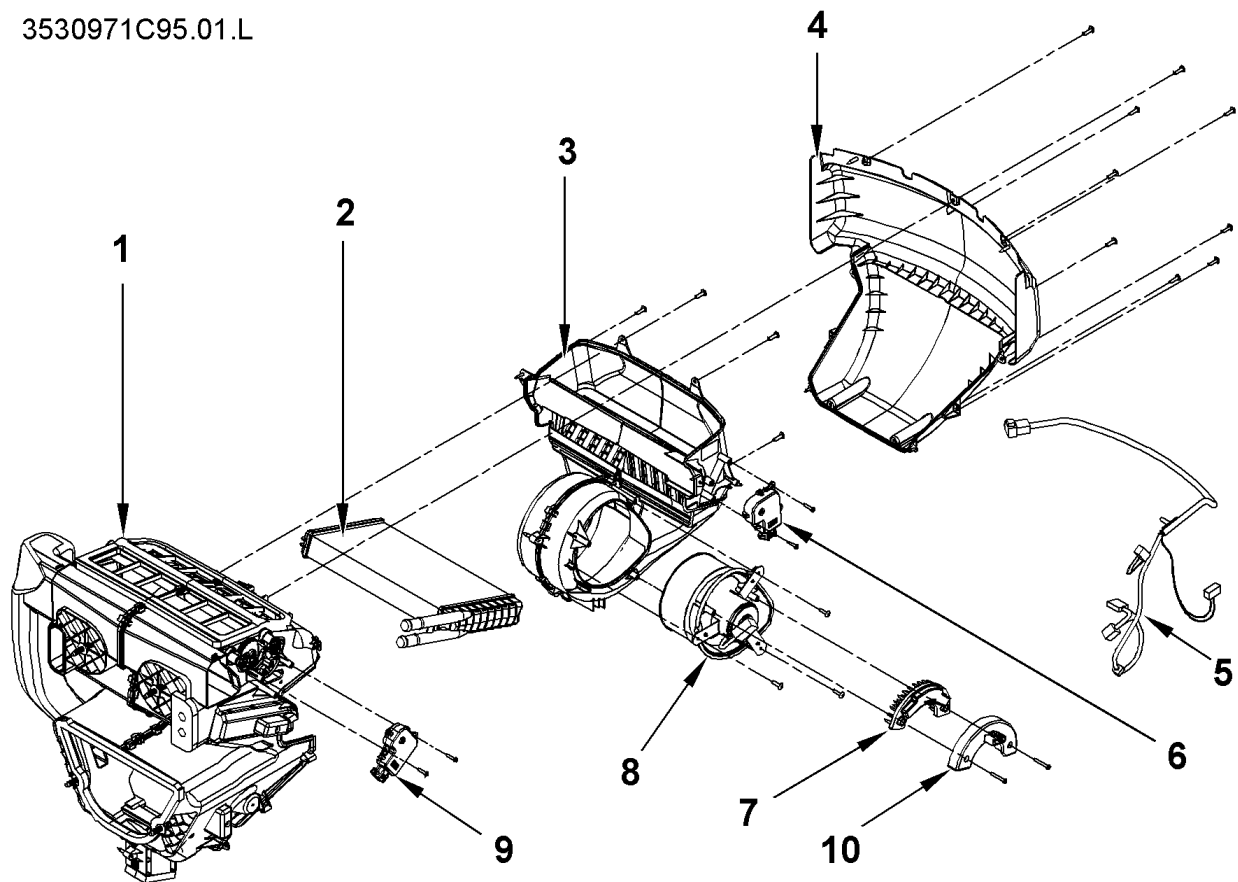

Figure 30 Heater Unit Exploded View
NOTE – Refer to Figure 30 while performing the following Remove and Install procedures.
2. Remove trim panels, as necessary, to gain access to mounting screws for heater trim cover (4, Figure 30).
5. Disconnect electrical plug connected to temperature blend door actuator (6).
6. Remove two screws securing actuator to blower scroll housing (3), and pull actuator straight off of temperature blend door shaft.
2. Secure actuator to blower scroll housing (3, Figure 30) using two screws.
3. Connect electrical control plug to temperature blend door actuator (6).
4. Secure heater trim cover (4) to heater housing with nine screws.
2. Remove trim panels, as necessary, to gain access to heater trim cover (4, Figure 30) mounting screws.
5. Disconnect electrical plug connected to mode door actuator (9).
6. Remove two screws securing actuator (9) to heater housing (1), and pull actuator straight off of mode door shaft.
1. Carefully slip actuator (9, Figure 30) onto end of mode door shaft so that mounting holes are properly aligned, if possible. If actuator drive collar must be moved to allow alignment:
2. Secure actuator to heater housing (1) using two screws.
3. Connect electrical control plug to mode door actuator motor (9).
NOTE – Refer to Figure 30 while performing the following steps.
2. Disconnect electrical plug connected to the temperature door actuator (6, Figure 30).
3. Remove four screws securing blower scroll housing (3) to heater housing assembly (1).
1. If removed previously, install blower assembly (8, Figure 30), using three screws.
2. If removed previously, install linear power module (7) and LPM cover (10), using two screws.
3. If temperature door actuator was removed previously, install actuator by rotating door until flats on door shaft align with actuator drive collar, if possible; then carefully slip the actuator (6) onto end of door shaft so that mounting holes are properly aligned. If actuator drive collar must be moved to allow alignment:
4. Secure actuator to blower scroll housing (3) using two screws.
5. Before installing blower scroll housing, verify that heater core (2) is installed in heater housing (1). To install the heater core refer to REMOVE AND INSTALL, HEATER CORE (See HEATER CORE, page 87).
1. Remove blower scroll housing (3, Figure 30), refer to REMOVE AND INSTALL, BLOWER SCROLL HOUSING, (See BLOWER SCROLL HOUSING, page 85).
2. Detach linear power module (7) and LPM cover (10) from blower scroll housing (3) by removing two mounting screws.
3. Remove blower assembly (8) by removing the three screws securing it to the scroll housing (3).
1. Install blower assembly (8, Figure 30) by securing it to the scroll housing (3) with three screws.
2. Secure linear power module (7) and LPM cover (10) to blower scroll housing (3) with two screws.